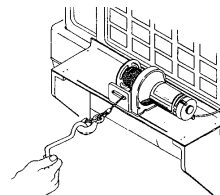

Figure 2
7. **KEEP CLEAR OF THE WINCH, WIRE ROPE, AND HOOK WHEN OPERATING WINCH. NEVER** put your fingers through the hook when reeling in the last few feet of line. If your finger should become trapped in the hook, you could be injured. Use the **HAND SAVER BAR** (Figure 2) to guide the hook within the last few feet. Never guide a wire rope on or off the drum with your hand.